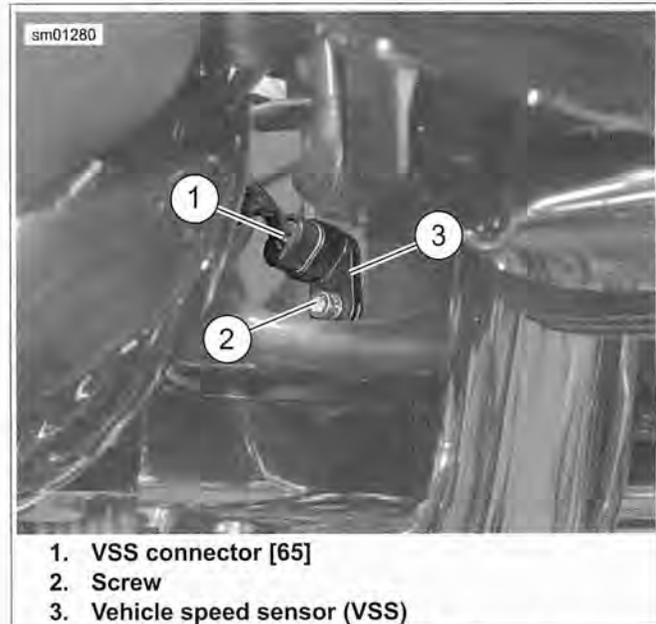

Figure 6-103. Vehicle Speed Sensor: All Models (XL Shown)
2. See Figure 6-103. Disconnect VSS harness connector [65A] (1) from VSS (3) mounted on rear of engine case below starter motor assembly.
3. Remove screw (2). Carefully remove VSS and O-ring from engine crankcase.
1. See Figure 6-103. Carefully install VSS (3) and O-ring into engine crankcase with screw (2). Tighten to 90-120 in-lbs (10.2-13.6 Nm).
2. Attach VSS harness connector [65A] (1) to VSS.